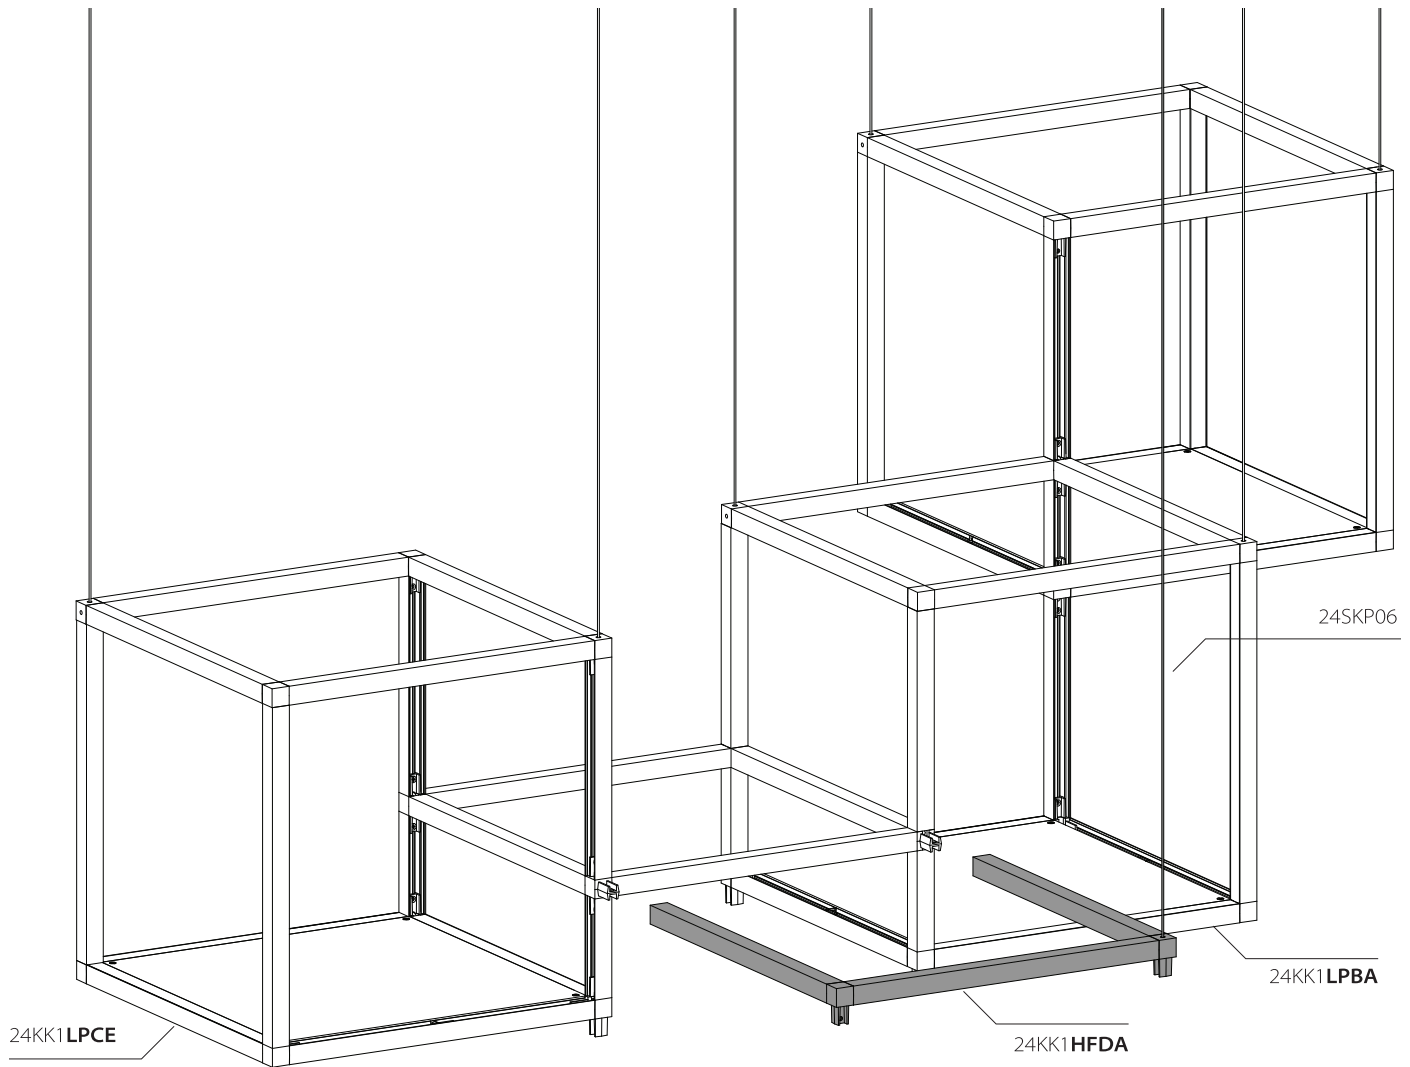

Fig. 8a
- 6a. Install 24KK1HFDA to assembly in the orientation show in Fig. 8a.